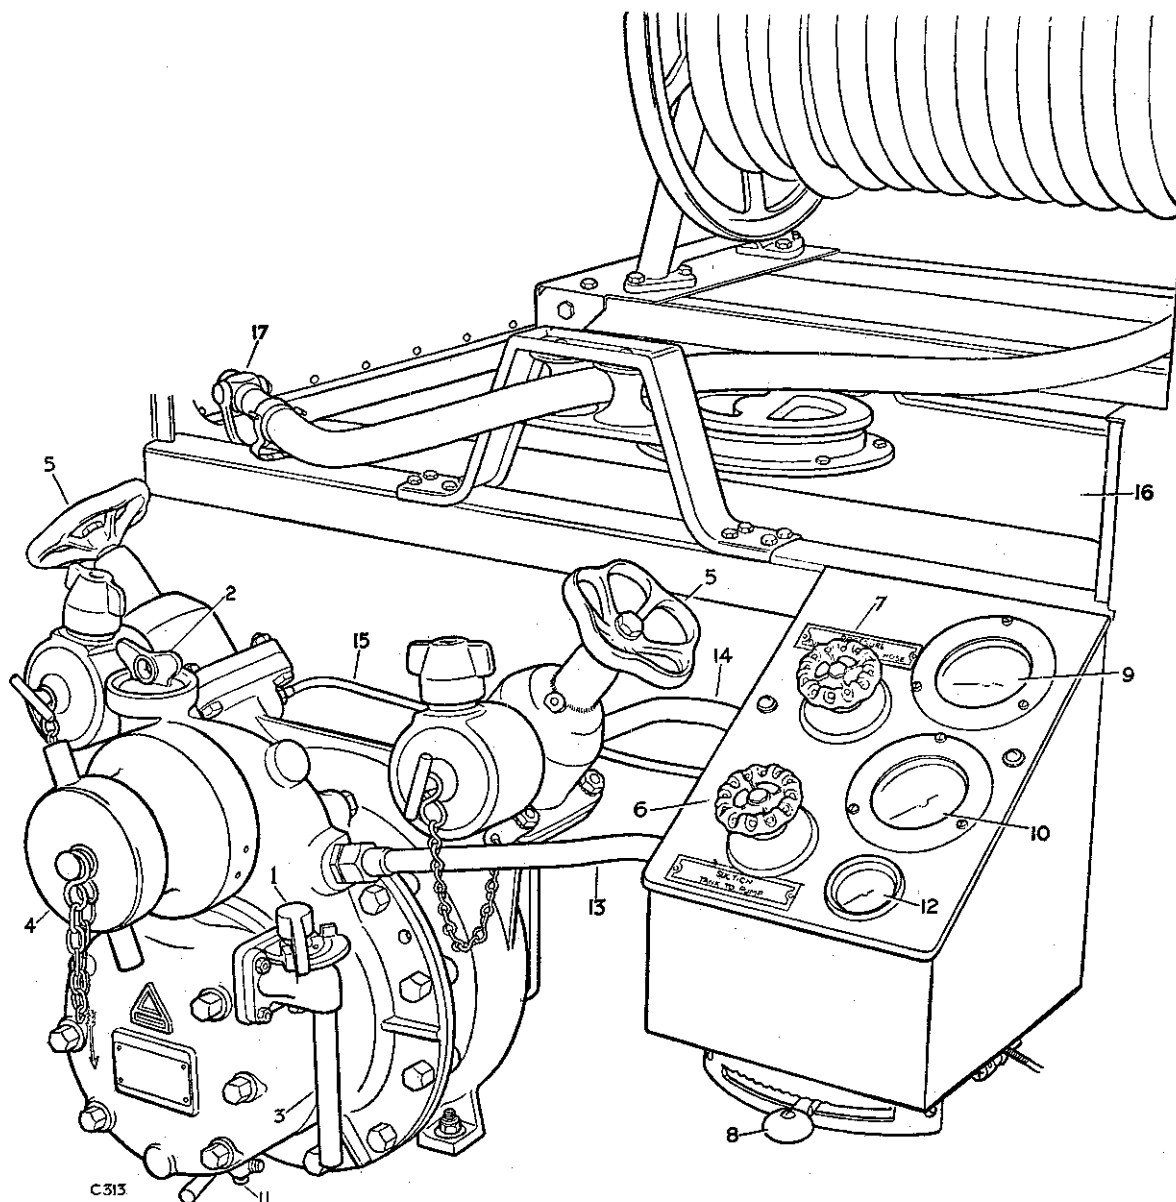

Fig T-42—Pump and controls
## To prime the pump (Fig. T-42) Operation T/68
1. Select the "Priming" position with lever (1) and remove wing cap (2); pour water into the filler neck until it flows from the exhaust pipe (3), then replace the wing cap. See Fig. T-42.
## To engage the pump drive (Fig. T-42)
## To pump from first-aid tank (Fig. T-42)
2. Open first-aid suction control valve (6) and pressure control valve (7) and select "Working" position with lever (1).
**To fill first-aid tank from a hydrant (Fig. T-42)****Operation T/74**
2. Open first-aid suction control valve (6) and ensure that delivery valves are closed.
**To pump from a static water supply (Fig. T-42)****Operation T/76**
4. With lever (1) at "Priming" start the engine and engage the drive.
5. Move the governor control quadrant to the fully open position. The vacuum gauge (9) should indicate an increasing depression, and when water flows from exhaust pipe (3), the delivery valves must be slowly opened. When the pressure gauge (10) indicates rising pressure, move the lever (1) into "Working" position.
**To pump from a hydrant or gravity feed supply (Fig. T-42)****Operation T/78**
2. Select "Working" position with lever (1).
**To temporarily stop output (Fig. T-42)****Operation T/80**
- Periodically select "Priming" position with lever (1) in order to allow the water in pump to be changed and thereby avoid overheating.
**Precautions to be taken when pumping****(Fig. T-42)****Operation T/84**